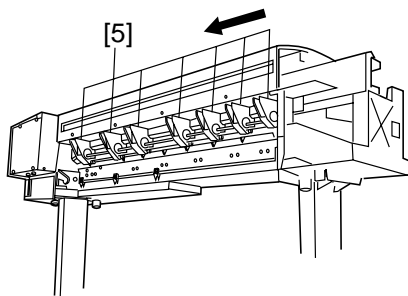

Figure 3-404
- When installing the pinch roller unit, tighten the screws in order from the left one at the back of the main unit (See Figure 3-404).